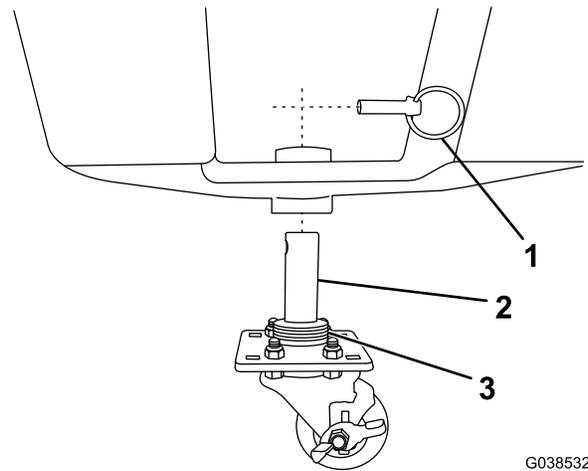

Figure 6
5. Slide the small caster shoe into the center shoe holder and secure it with a quick pin (Figure 6).